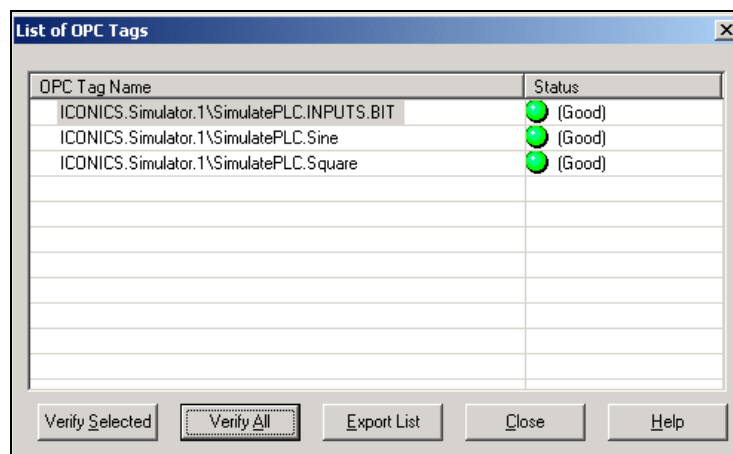

Figure 4.15
3. Each of the tags selected for verification shows an indicator of good (green), bad (red), or uncertain (yellow) as a form of verification, as shown in **Figure 4.15**.